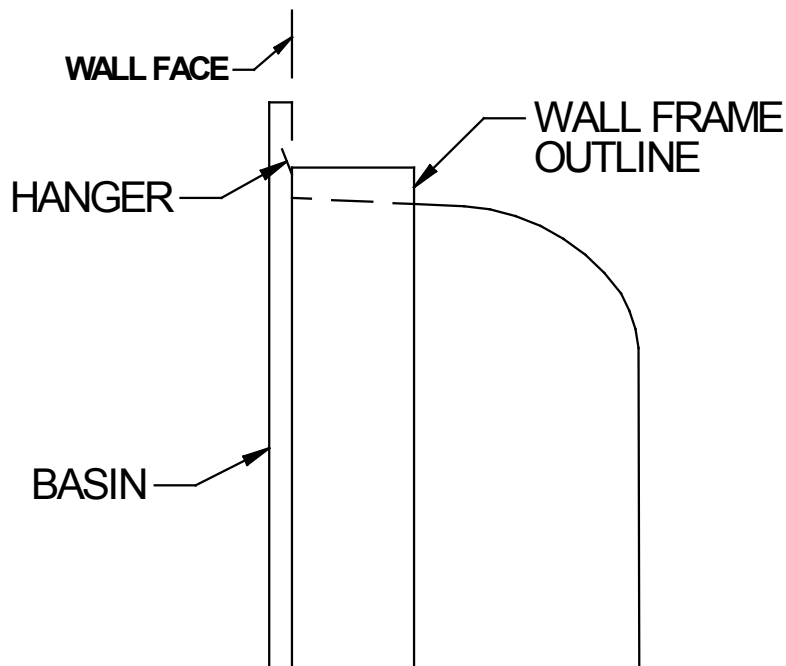

FIG. 7
3. **Install** the basin (See Fig. 7). Hold the basin flush against the wall, positioning the top edge just above the upper edge of the wall frame. Then slide the basin down slowly until it engages the hanger bracket. Be sure the basin is firmly engaged before releasing it.